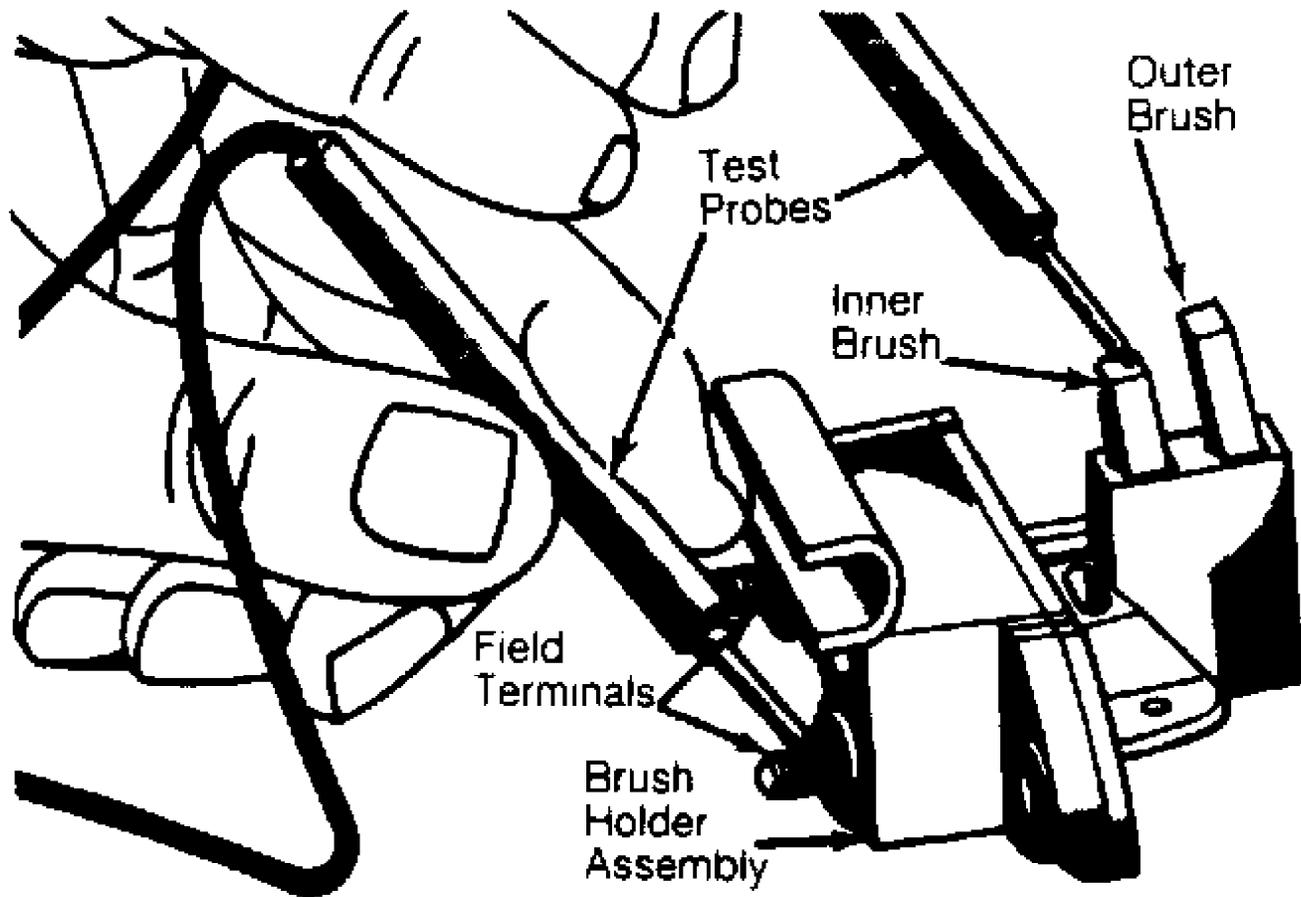

Fig. 18: Testing Inner & Outer Brush Circuit
2) Using a volt/ohmmeter touch one test lead to inner brush, and other test lead to field terminal. If there is no continuity, replace brush assembly. With the volt/ohmmeter touch one test lead to outer brush and other test lead to field terminal. If there is no continuity, replace brush assembly. See Fig. 18.